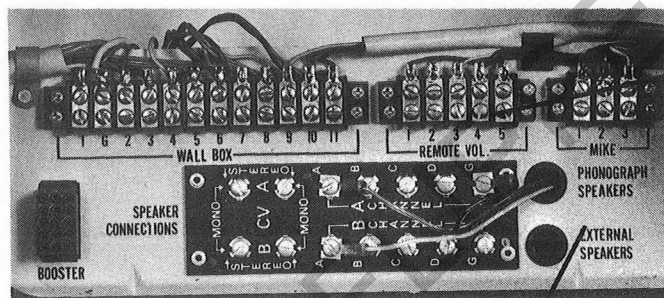

Figure 4.
16. Connect the five conductors of the cable installed in Step 15 to CABLE, TERMINAL and PLUG ASSEMBLY TERMINAL STRIP shown in Figure 4, using any convenient color code.